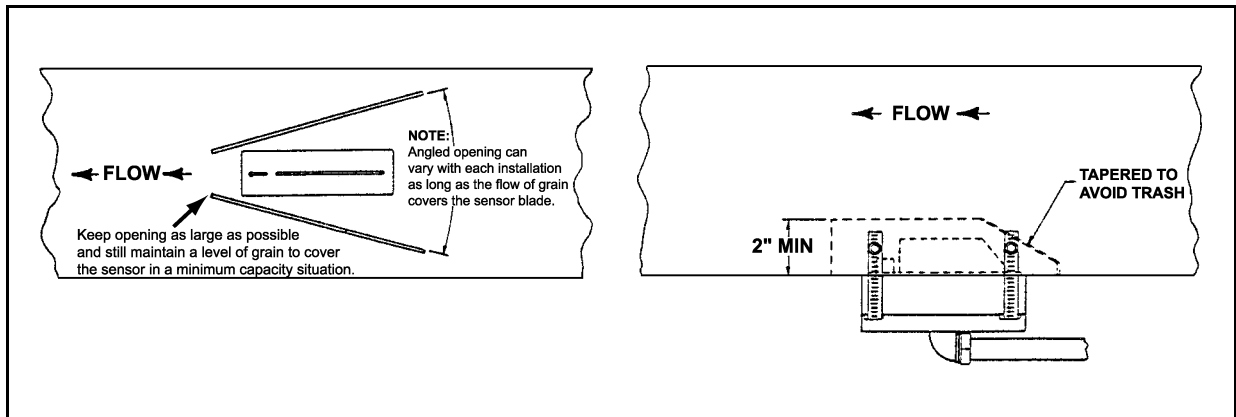

Figure 4N
4. For conditions where straw or chaff can accumulate in the restrictor funnel, the grain can be channeled over the sensor with angled brackets in the down spout. (See Figure 4N).